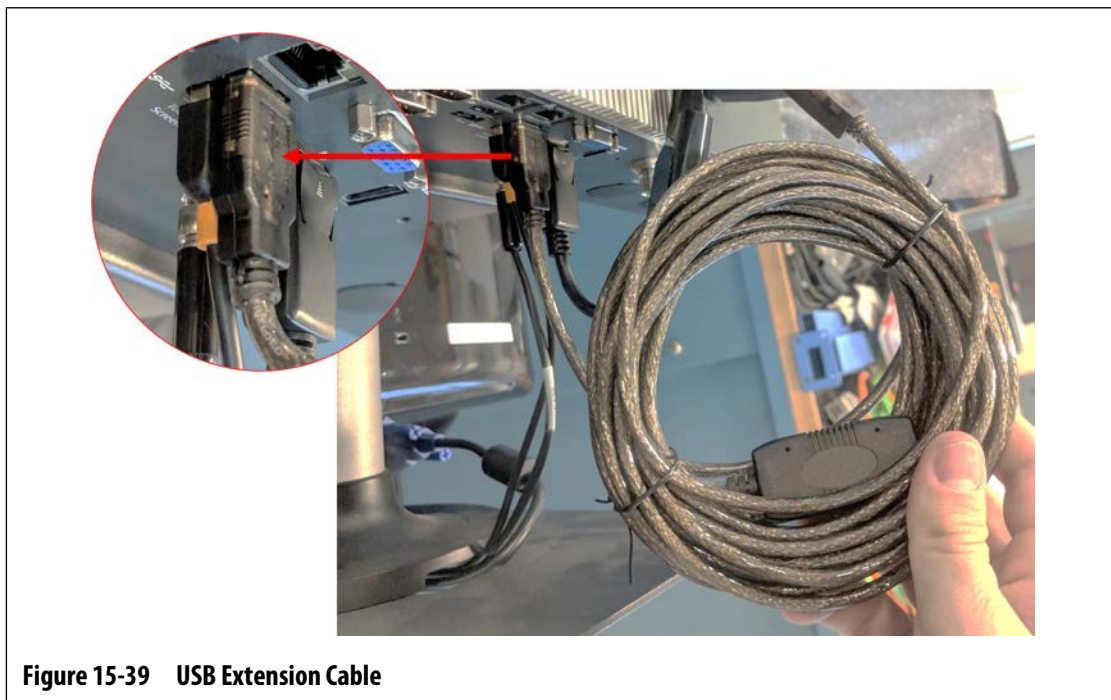

Figure 15-39 USB Extension Cable
4. Connect the USB Extension cable (USB Type A connector end) to one of the available USB ports on the bottom of the MCU enclosure. Refer to Figure 15-39.